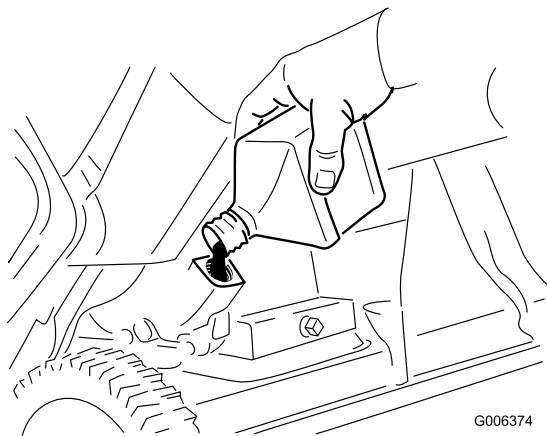

Figure 32
8. With the machine in the operating position, **carefully** pour oil into the oil fill hole. Wait 3 minutes for the oil to settle and add enough to bring it to the point of overflow. There should be very little, if any, oil left in the bottle. Figure 32.